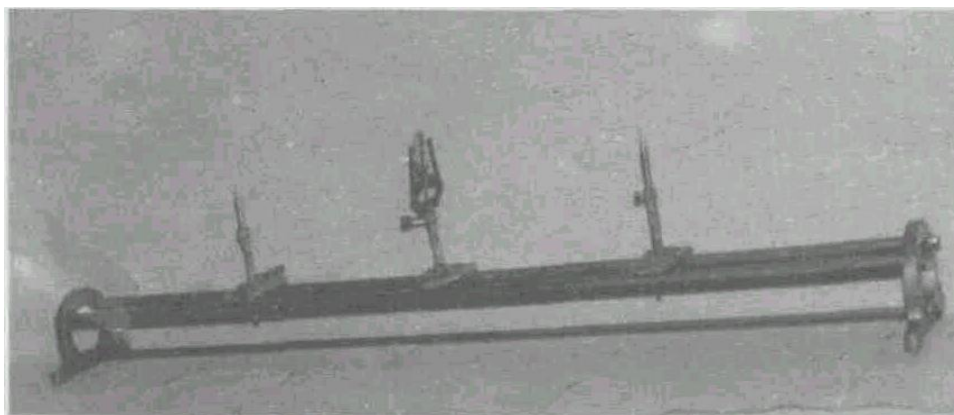

Fig.4.5 Experimental arrangement for determination of focal length of a convex lens
2. Refer to Fig.4.5 which shows how you should mount the lens, the object and the image pins in the uprights on an optical bench.